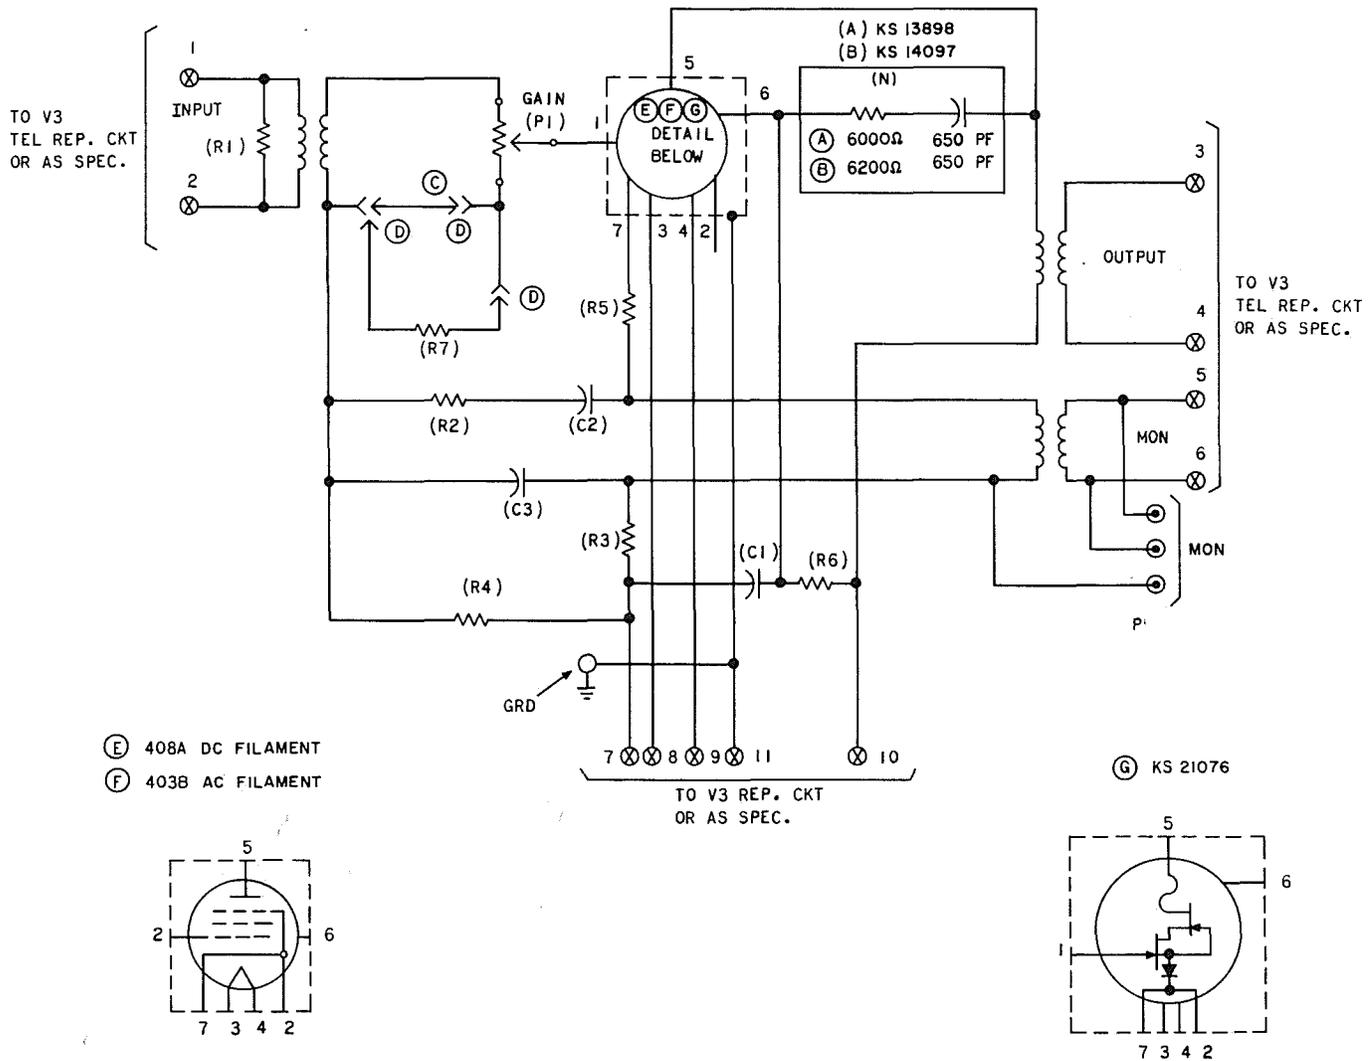

Fig. 1—V3 Amplifier Schematic
1.03 The V3 amplifier (as shown in Fig. 1) has pin jacks that permit access to the monitoring windings. The single pin jack (P) permits a reading of the voltage drop across a resistor in the cathode circuit for use in amplifier testing.